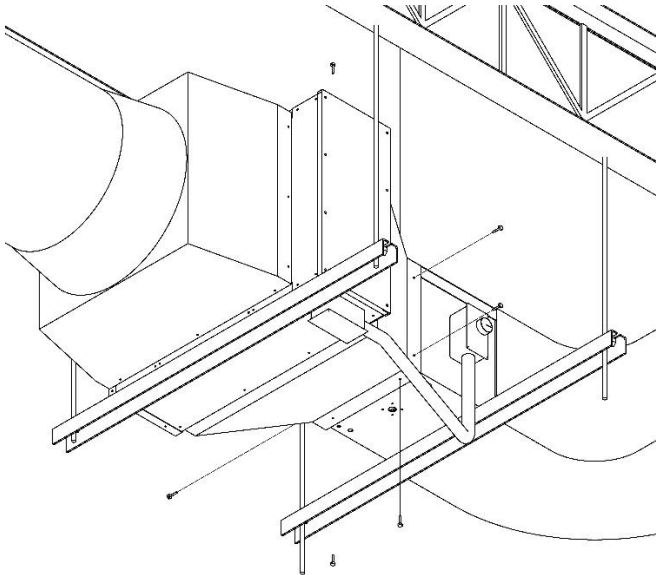

Figure 16
3.) Remove (8) screws attaching motor housing to transition. See Figure 16.
- 17.) Attach other side of motor housing to Transition with (8) screws. See Figures 16 and 17.